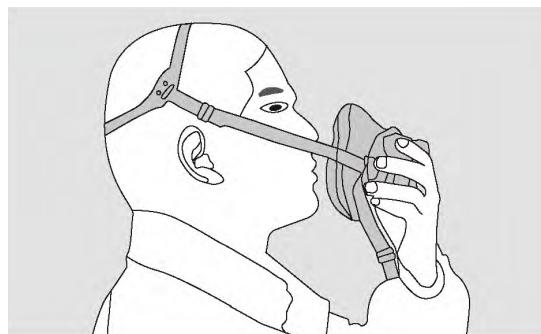

Fig.1
- 1) Put the top headband on the head (Fig. 1) ;